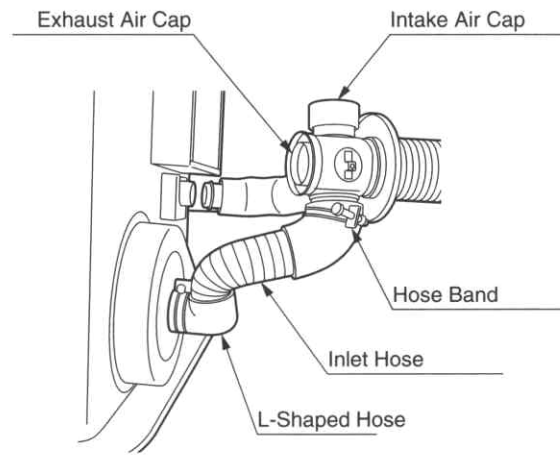

Fig. 10
6. Insert the bent joint to the exhaust opening of the standard flue pipe. Cut the inlet hose for desired length if necessary. Attach the L-shaped hose to each end of the inlet hose and attach the L-shaped hose to the intake opening of the standard flue pipe. Secure the L-shaped hose to the intake opening with the hose band. Plug the unused exhaust and intake opening with the caps provided with the heater. Make sure the caps fit tightly onto the opening (See Fig. 10).